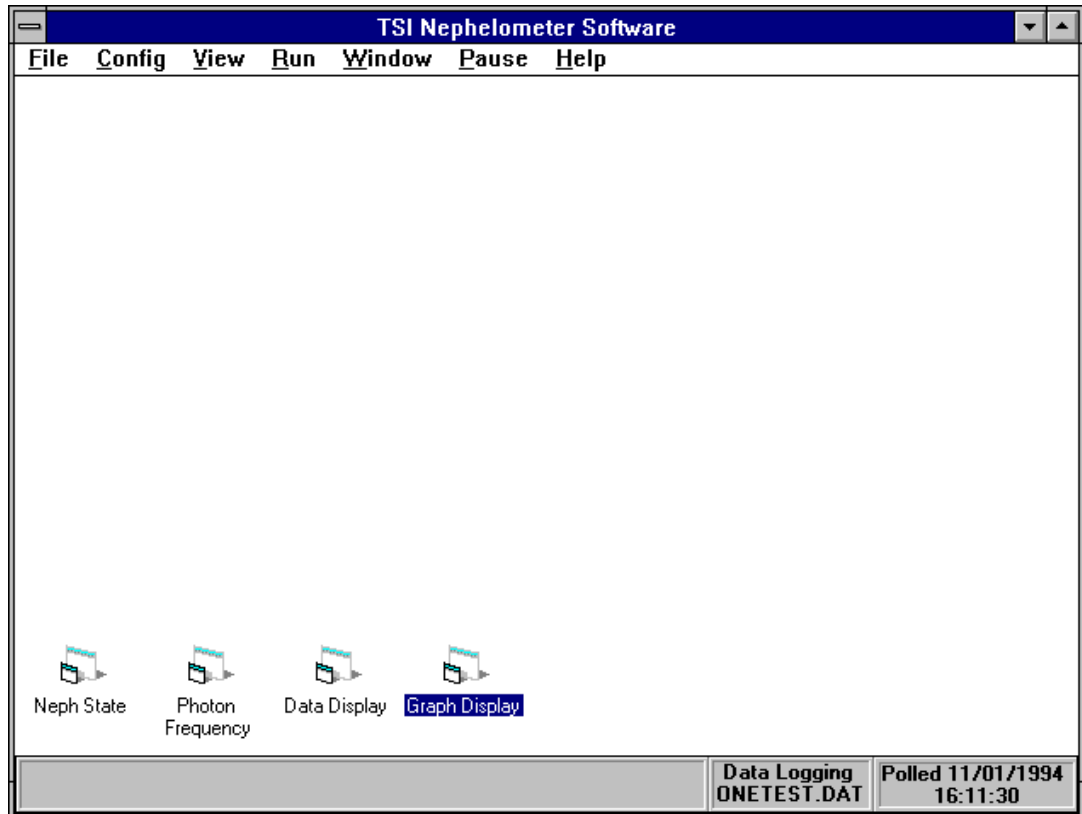

Figure 5-4
2. Select the **Data Collection** command from the Run menu. Immediately, four windows are automatically opened and minimized on your screen (Figure 5-4) and data collection begins.